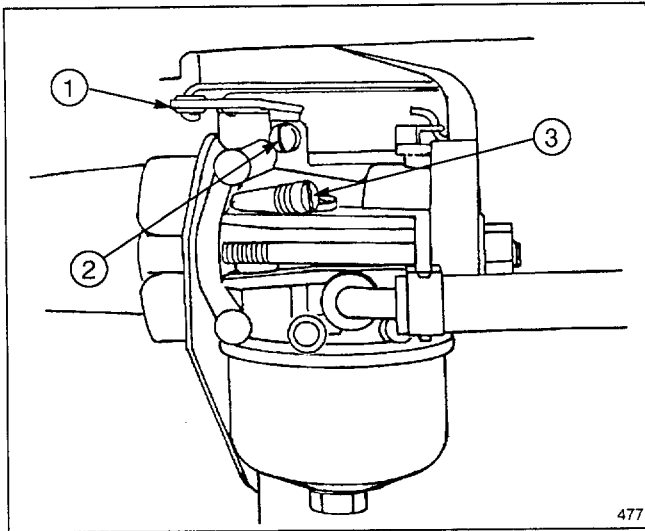

Figure 16
1. Gently turn idle mixture valve clockwise until it just closes (Fig. 16). Turning valve in too far may cause damage.
4. Rotate throttle (Fig. 16) counterclockwise and hold against idle speed adjusting screw (Fig. 16) while turning idle speed adjusting screw to obtain 1750 RPM.